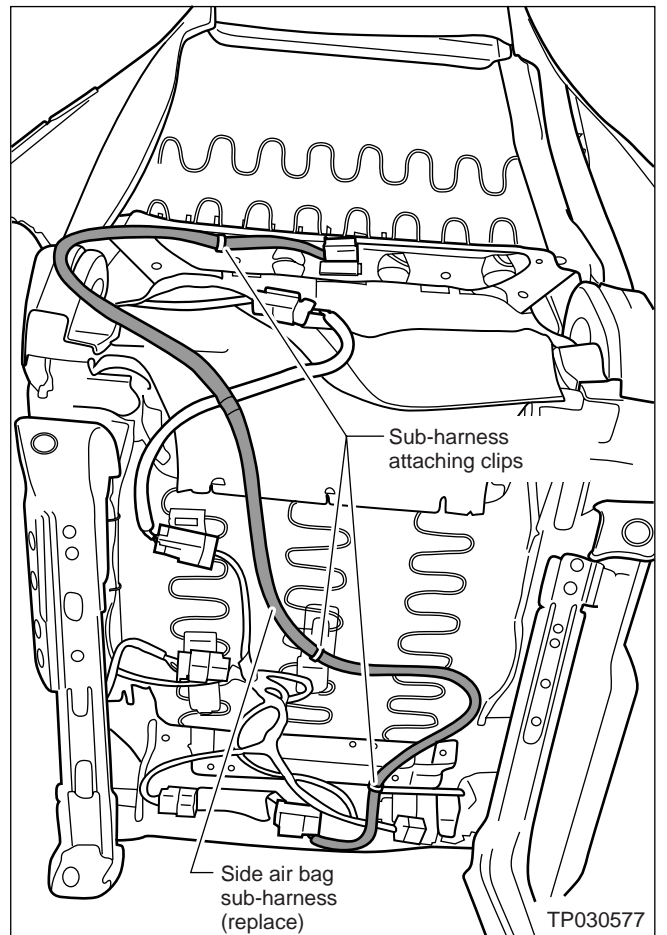

Figure 14
16. Replace the side air bag sub harness (see Figure 14).
WARNING: Make sure the air bag sub-harness is correctly routed and secured (see Figure 14).